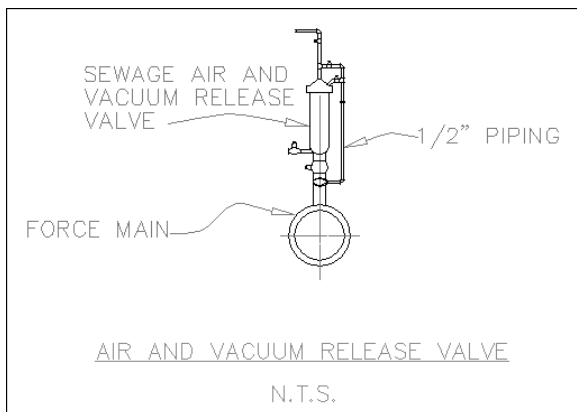

**Figure 13-8:** An air and vacuum release valve.
2. Save the file as ab13-02.dwg in your AutoCAD Bible folder. This is an air and vacuum release valve, as shown in Figure 13-8.